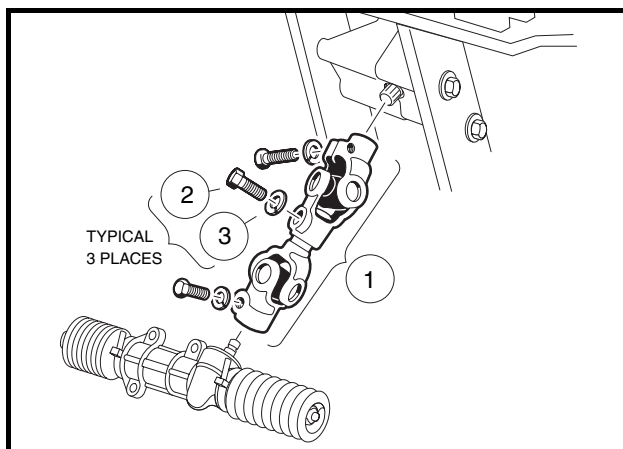

Figure 16-11 Compound Steering Joint
3. Remove the steering joint assembly (**Figure 16-11, Page 16-13**).
- 4.1. Position steering joint assembly (1) on vehicle as shown. Install three lock washers (3) and three bolts (2) and tighten to 15 ft-lb (20.3 N·m) (**Figure 16-11, Page 16-13**).